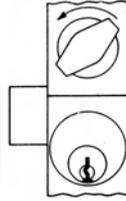

Figure 3-1
- To clear any previously depressed code buttons, turn the thumb turn to the left (counter-clockwise) and release (**See Figure 3-1**).